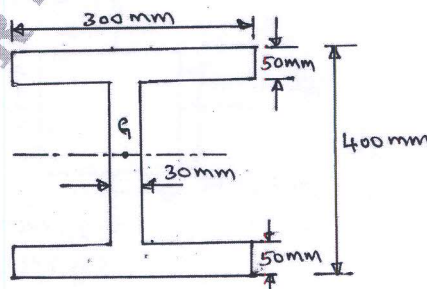

Fig. Q8 (b)
- b. A built up I-section has an overall depth of 400 mm is as shown in Fig. Q8 (b). It is used as a beam with simply supported ends and it deflects by 10 mm when subjected to a load of 40 kN/m length. Find the safe load if this I-section is used as a column with both ends hinged. Use Euler's formula. Assume a factor of safety 1.75 and take $E = 2 \times 10^5$ N/mm². (10 Marks)